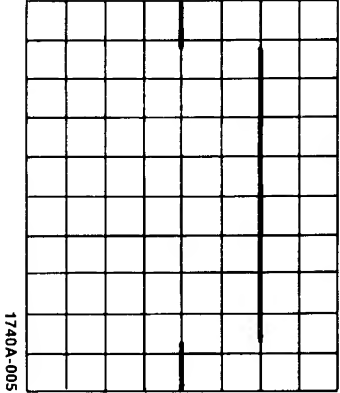

Figure 5b. Magnified Display
3. Press MAG X10 33 and adjust the horizontal FINE 26 control for precise placement of the magnified display (see figure 5b).